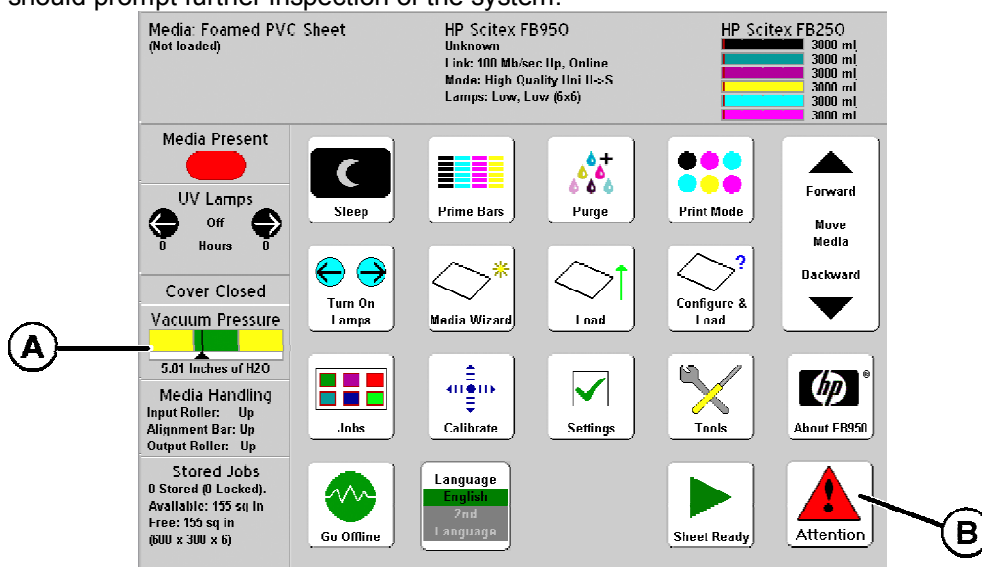
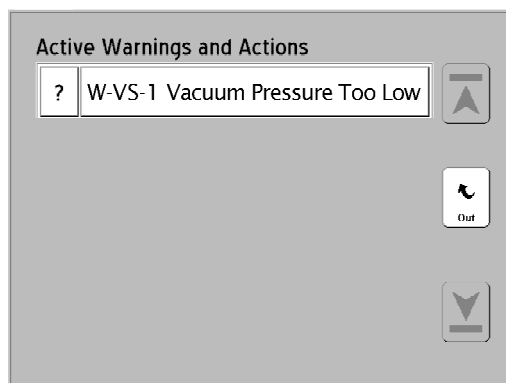

Figure 15 Control panel for FB950
Figure 18 Vacuum Too Low warning (H-Series shown; FB950 similar).
In a normal and working system, the control panel will show a vacuum pressure status of around 5.25 "H2O (9.35 mmHg). A variation of plus-or-minus 0.25 "H2O is acceptable. See Figures 15 and 16 in the following section.
The observable symptom here is that the vacuums status indicator on the control panel is less than 4.75 "H2O. On the FB950, there is a green and yellow indicator on the left side of the control panel (“A” in Figure 15). Any value in the green zone is acceptable; any value outside the green zone should prompt further inspection of the system.
In addition to the vacuum status, if vacuum is too low there will be a Warning in the Attention Queue (“B” in Figure 15) that states the vacuum is too low. See Figure 18.
1. Check the printer's vacuum level from the control panel as indicated in Figure 15 or 16.